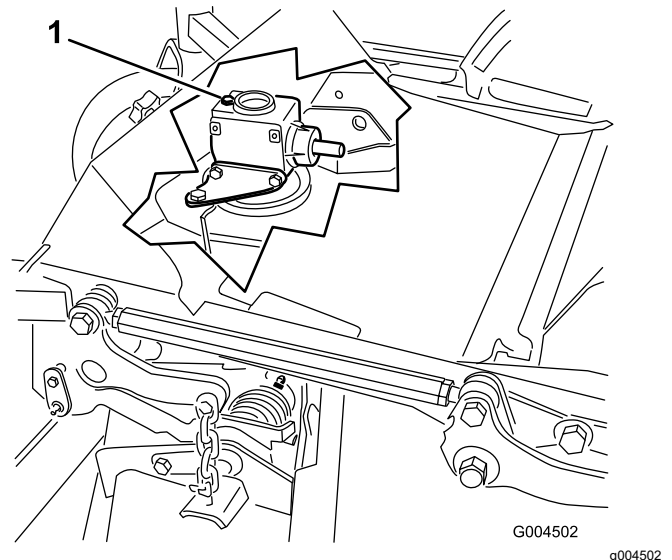

Figure 29
6. Remove the dipstick/fill plug from the top of the gearbox and make sure that the lubricant is between the marks on the dipstick (Figure 29).
6. Remove the dipstick/fill plug from the top of the gearbox (Figure 29).